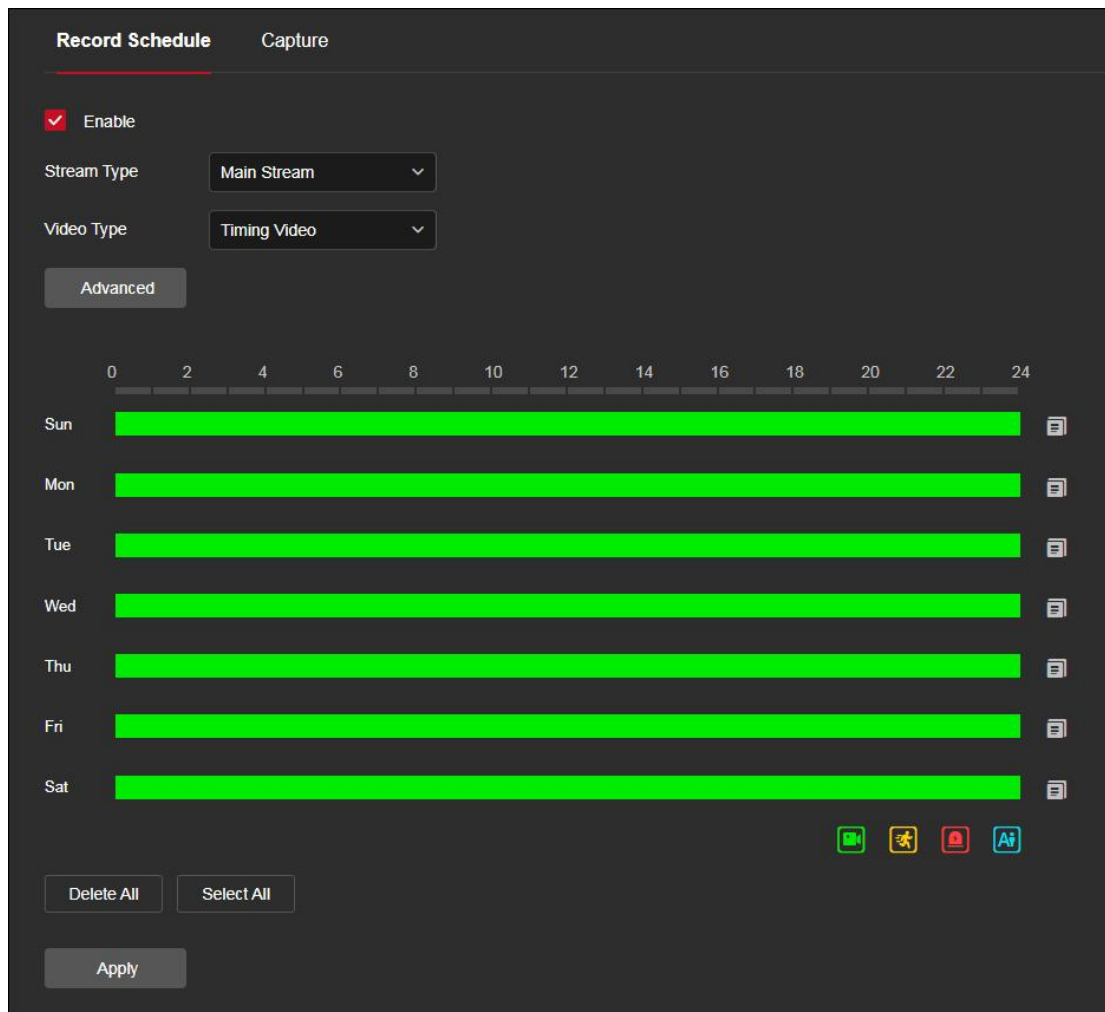

Figure 8-7-1
Step 1: In the main interface, click "Configuration → Storage → Schedule Settings → Record Schedule" to enter the recording setting interface, as shown in Figure 8-7-1